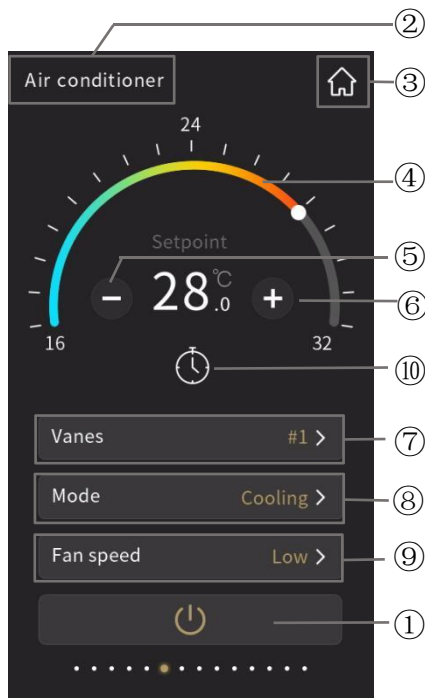
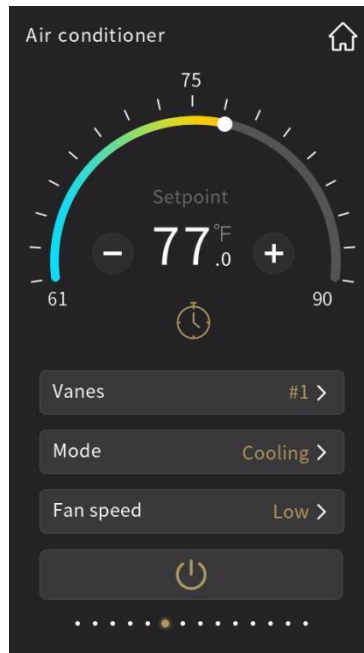
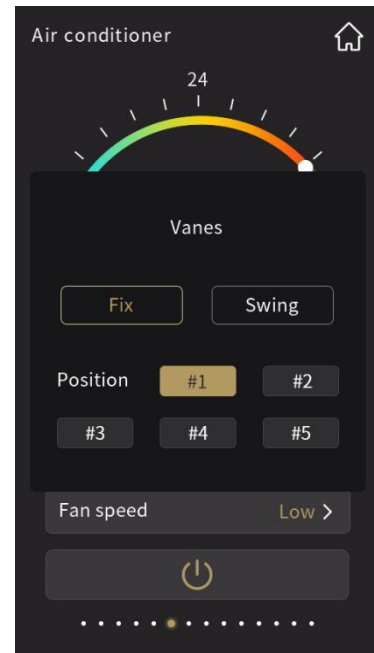

Fig.2.4.1
Fig.2.4.2
Fig.2.4.3
- ② This area displays the page description identification of Air-Conditioner control, user can define the description through ETS;
- ③ Return to Home page by touching this icon;
- ④ Adjust the setting temperature by sliding this ring slider;
- ⑤ The function of this icon is to decrease the temperature;
- ⑥ The function of this icon is to increase the temperature;
Adjusting the temperature by sliding the ring slider④ or touching the icon⑤ and icon⑥. For each touching of icon⑤ and icon⑥, the adjustment range is 1.0 degrees. When the setting temperature unit is set to degrees Celsius(°C), as shown in Fig.2.4.1, adjustment range of the setting temperature is 16~32°C by default; when the setting temperature unit is set to Fahrenheit(°F), the current temperature value will automatically convert to Fahrenheit value, as shown in Fig.2.4.2, adjustment range of the setting temperature is 61~90°F by default. The temperature adjustment range can be modified through parameter setting.
- ⑦ Enter to the vanes setting by touching this tile, and will pop up a sub-window shown as Fig.2.4.3;
Under fixed vanes position, select one of the 5 options (#1, #2, #3, #4, #5) for vanes position, for instance, select #1, interface as shown in Fig.2.4.3, then touch the area outside the sub-window to return the previous level function page, the position selected will be shown on the function page, as shown in Fig.2.4.1. For vanes swing, because vanes position change all the time, there would be no fixed position, only display character "Swing" on the interface.
Vanes swing function set to be disable or enable by parameter configuration. When disable, there will be no vanes fixed/swing item shown on the interface, as shown in Fig.2.4.1; when enable, vanes position can be adjusted.
⑩ Turn on timer function by touching this icon;
Icon⑩ on indicates timer turn on; icon⑩ off indicates timer turn off. Timer function can be enabled via the parameter configuration. When timer function is disabled, there would be no timer icon as shown as Fig.2.4.1 on the interface; when enabled, timer can be configured.